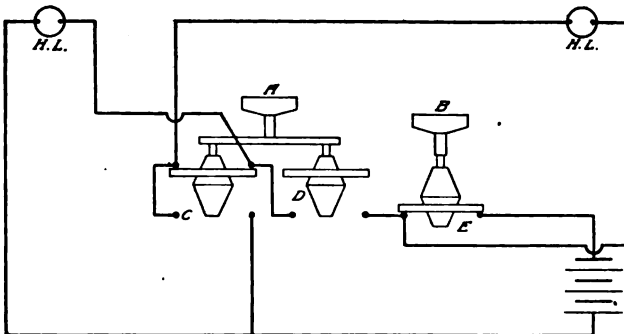

Fig. 192. Wiring Diagram of Series Control for Dimming Headlights
**connections.** Fig. 192 shows the connections for series burning, effected by pulling out button *B* and pushing in *A*, this closing switch *E*, opening *D*, and contacting *C* with the upper connections.